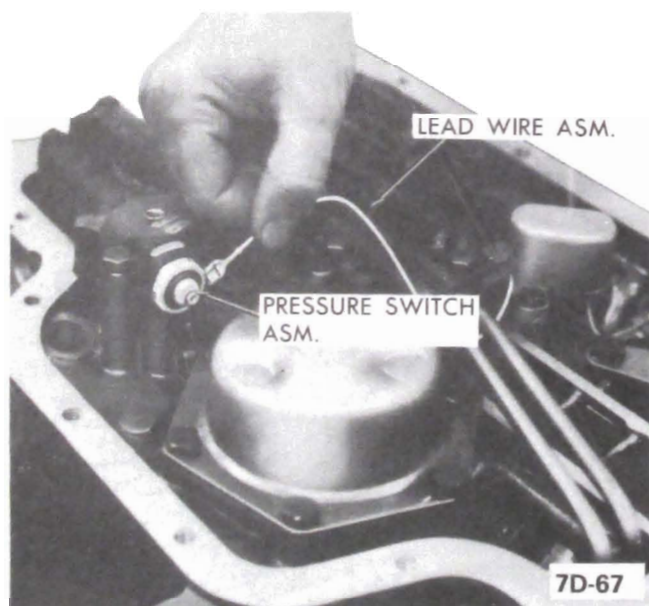

Figure 7D-28
1. Disconnect the lead wire assembly from the pressure switch assembly. See Figure 7D-28 (Model BB Only).